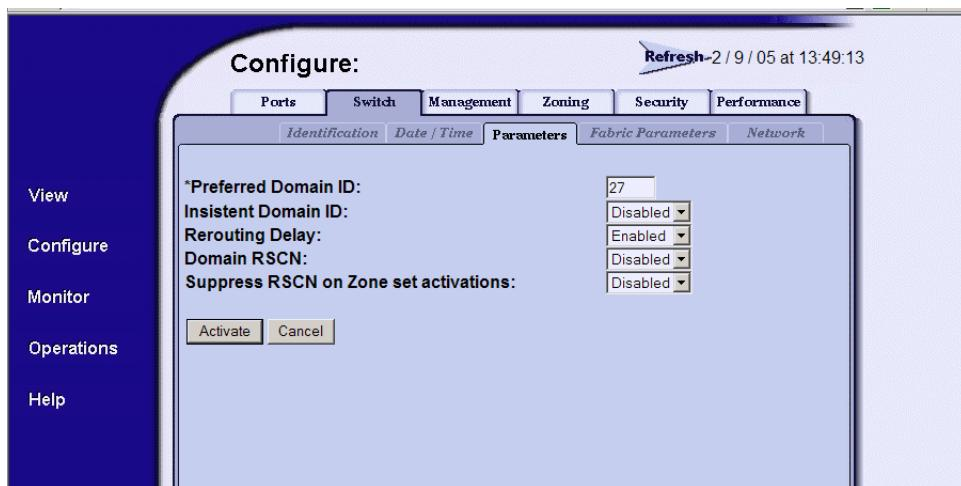

Figure 45 Switch page—Parameters tab
3. At the Configure panel, click the **Switch** tab, then select the **Parameters** tab. The Switch page is displayed with Switch Parameters shown (Figure 45).